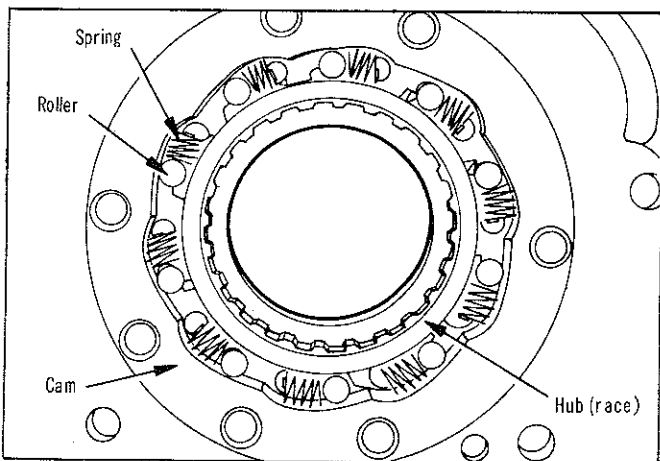

Fig. 61—Over-running clutch
(1) With transmission case in an upright position, insert clutch hub inside the cam. Install over-running clutch rollers and springs exactly as shown in Fig. 61.